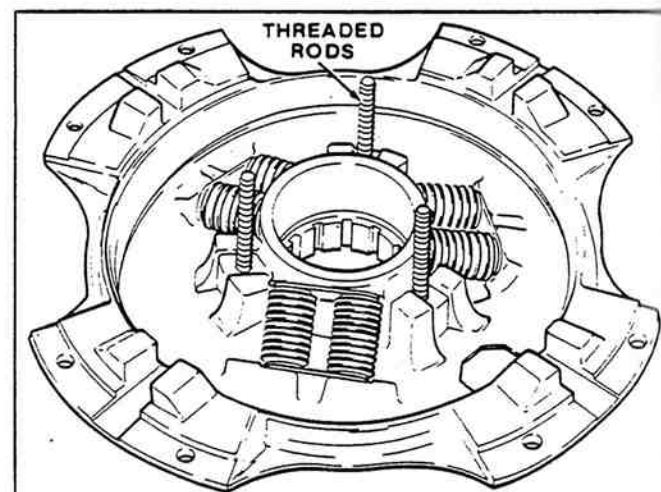

Figure 5-8. Install Threaded Rods.
9. Install three 5/16" x 5" (7.9 x 12.7 mm) threaded rods through clearance holes in release sleeve retainer and into holes provided in flywheel ring. Rods must pass through flywheel ring far enough to put hex nuts on both ends (figure 5-8).